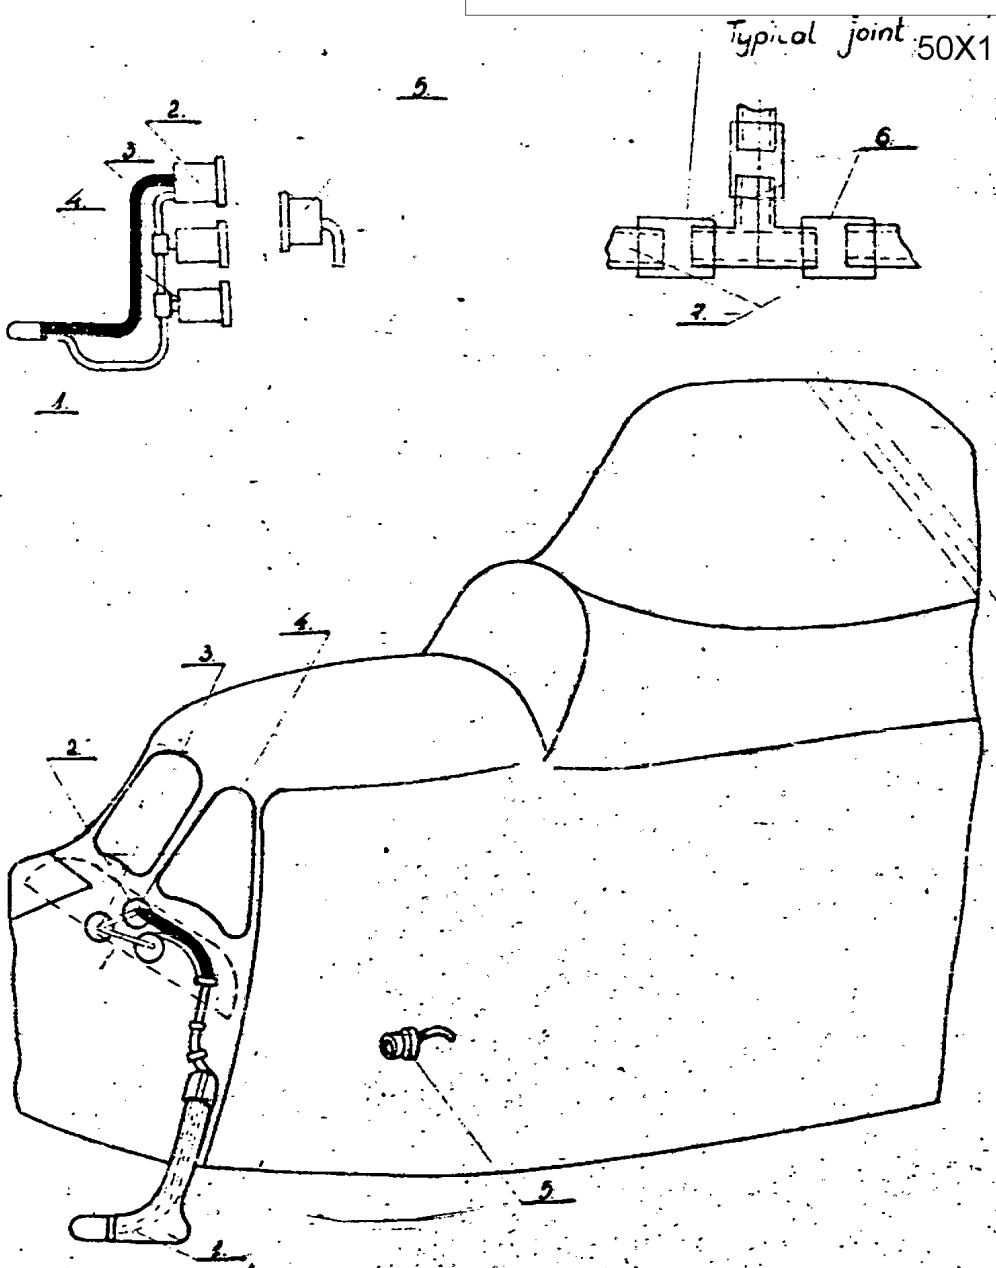

Fig 35 Lay out of instrument connection with pressure head.
- fuel contents gauge /Fig. 35, 36/.
The connection of instruments with the Pitot tube is shown in Fig. 35.